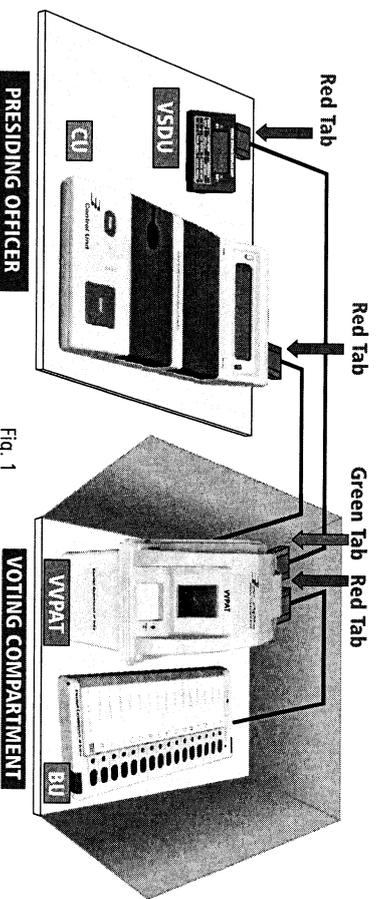

Fig. 1
- Place CU & VSDU and BU & WPAT as per (Fig. 1)
After ensuring that all seals are in proper condition and that the CU, VSDU, BU and VVPAT are placed as in Fig 1, power ON the CU.